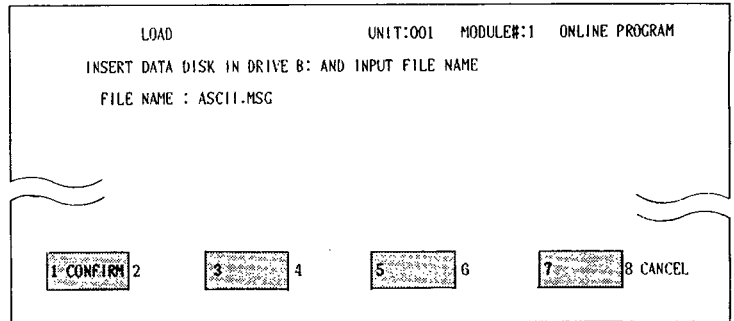

Fig. 7.39
3. Depressing **CANCEL** in Fig. 7.39 calls up the display of Fig. 7.30 again with no execution.